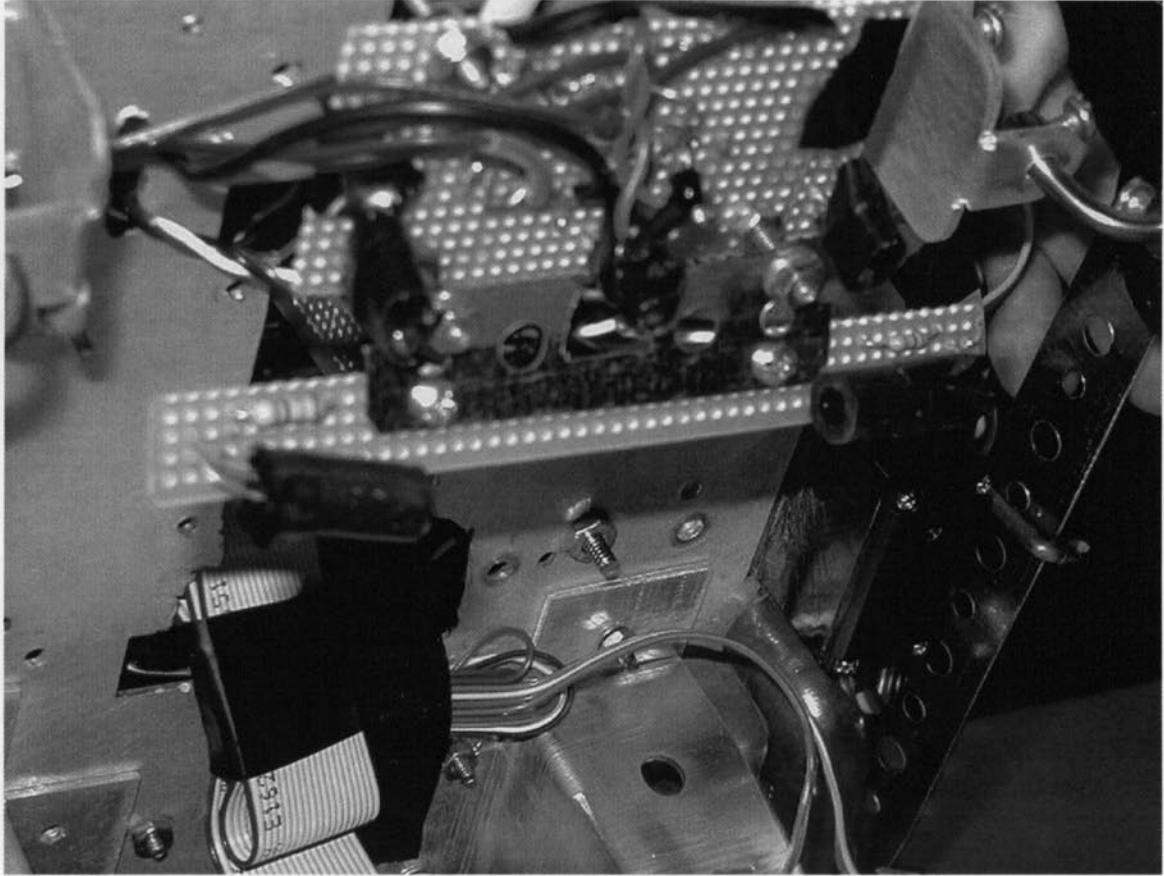

Fig. 6 – Ball Detector
- There is a connector coming from the ball detection circuit under the robot that consists of a red, white, and black wire. See Fig. 6. This goes to the connector coming from the inverter on the base of the robot. The red wire should line up with the wire coming from Pin 14 of the inverter. The black wire is ground. The white wire is the analog sensor output. The inverter is on the same board as the orange/purple switch.